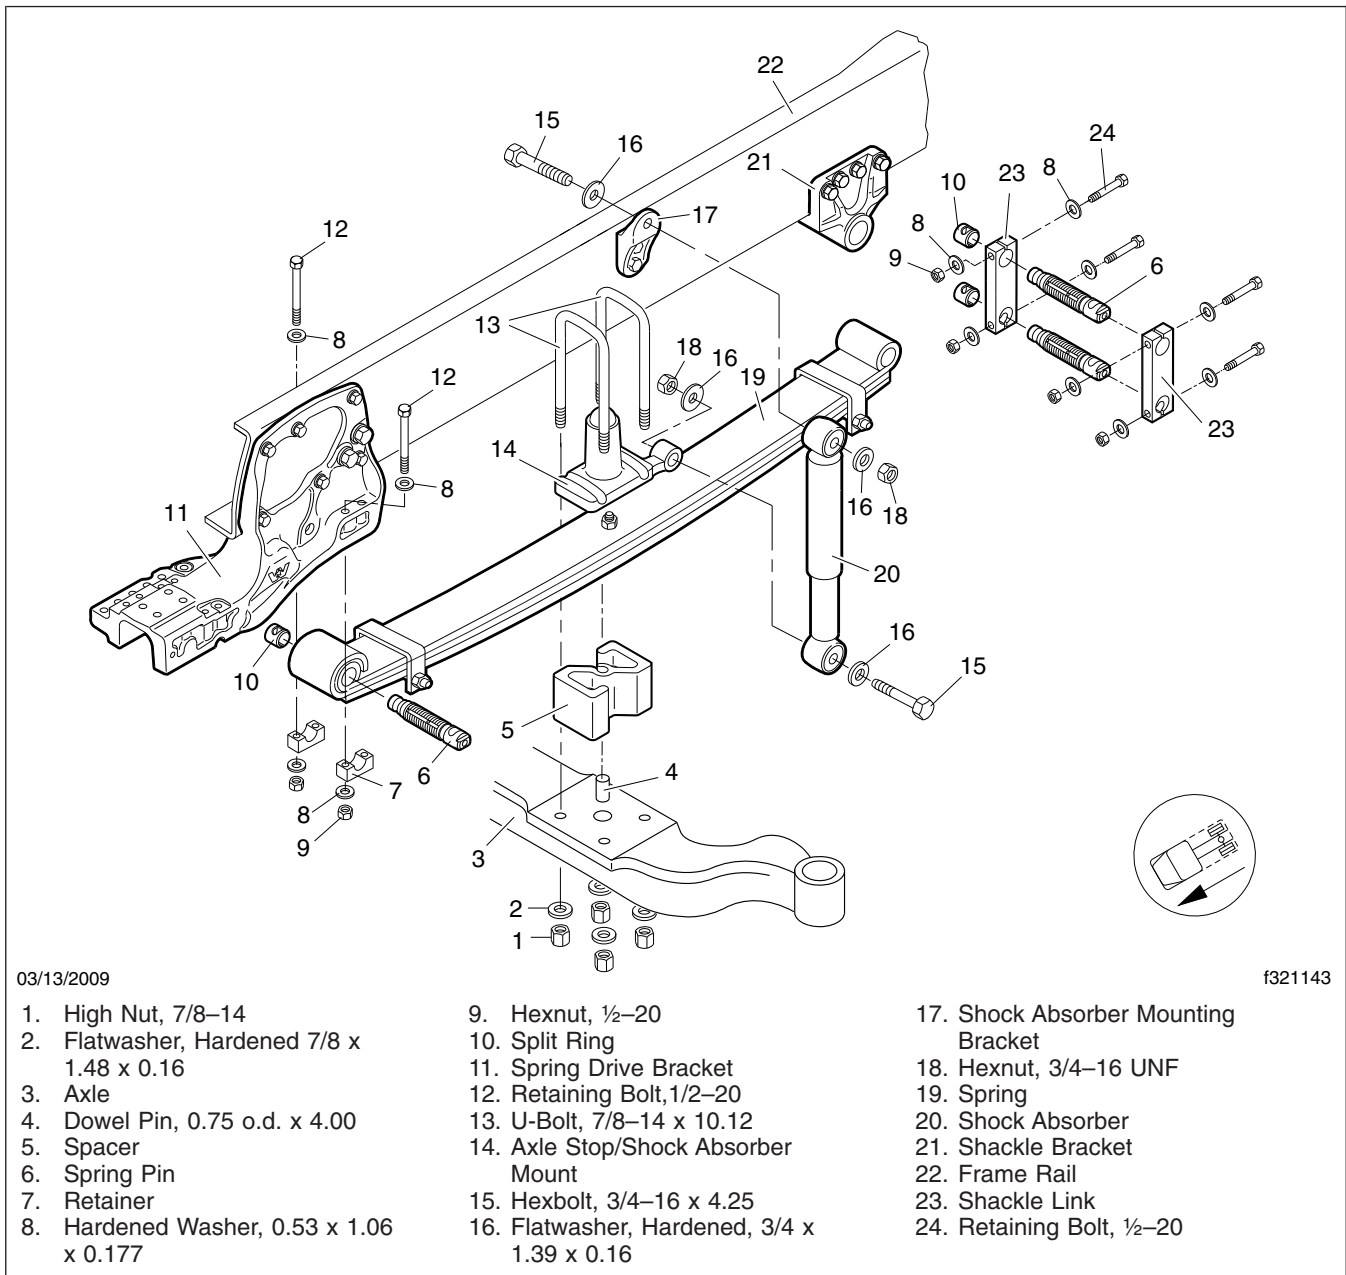

Fig. 1, Drop Hanger Front Suspension with Threaded Spring Pins
3. Disconnect both shock absorbers. See Fig. 1.
- 9.2 Using special tool J-49860, unthread the front spring pin from the spring eye. See Fig. 1.